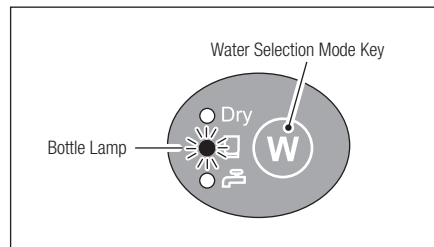

Fig. 41
- 5) Use the Water Selection Mode Key to select Bottle Water. (The Bottle Lamp will light.) (Fig. 41)